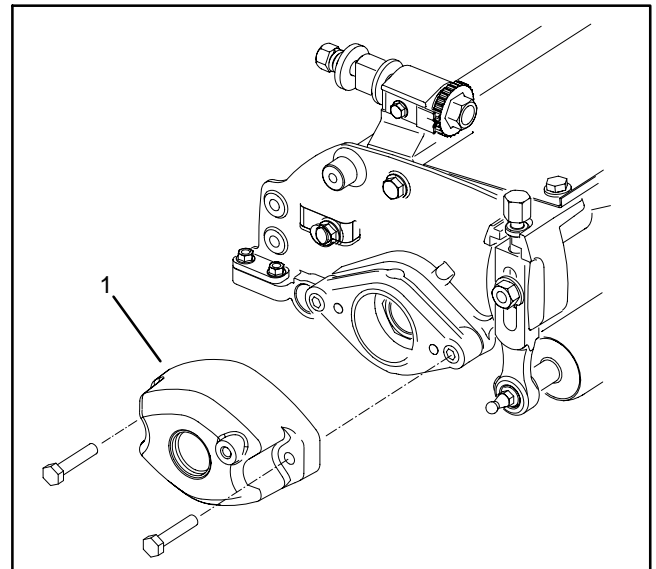
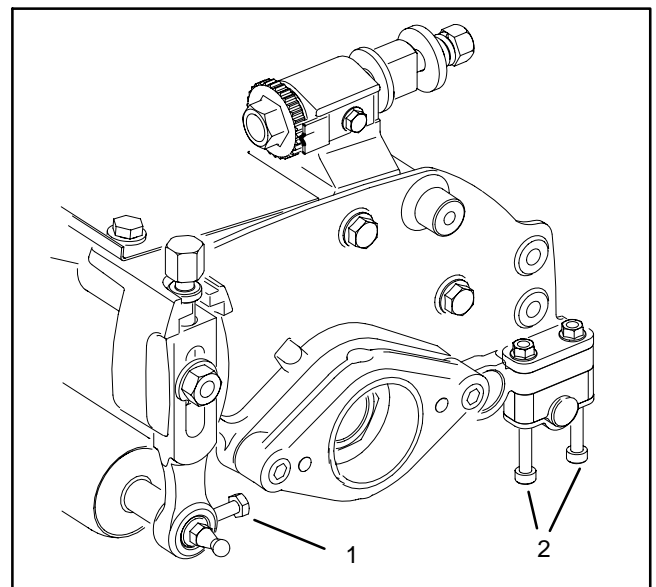

Figure 19
Figure 20
2. Remove the 2 capscrews securing the counter weight to the side plate (Fig. 19). Remove the counter weight.
**Note:** Depending on tools available, it may be necessary to remove the reel motor adapter plate before removing the left end bearing lock nut (8).
4. Remove the reel bearing lock (8) nut from each end of the reel shaft.
5. Loosen the setscrews securing the front roller to the height of cut arms (Fig. 20). Do not remove the set screws.
6. Loosen the saddle strap screws and flange nuts securing the rear roller to the the side plates (Fig. 20). Do not remove the screws and nuts.
7. Remove the capscrew (24), washer (23) and lock nut (25) securing each end of the grass shield to the side plates. These are the only capscrews that must be removed. The grass shield and the lift hook do not need to be removed.
8. Remove the 2 shoulder bolts (7) securing the right hand side plate to the cutting unit frame. Remove the side plate from the reel shaft and roller shafts.
9. Remove the 2 shoulder bolts (7) securing the left hand side plate to the cutting unit frame. Remove the side plate from the reel shaft and the roller shafts.